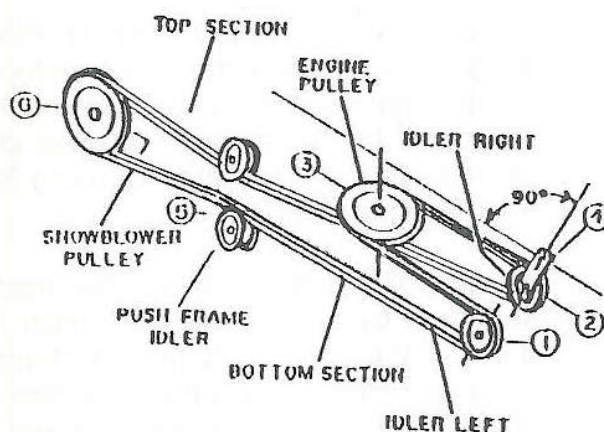

FIGURE 11
- e) Route the snowblower drive belt around the "V" idler pulley (fig.11, item 1) around the "V" idler pulley (item 2) and around the tractor drive pulley (item 3).
- NOTE:** Be careful the left V-belt section between the two pulleys (fig.11, item 6 and 1) is not twisted.
- a) The lever puller (fig. 11 or 14, item 4) must be appx. 90° with the subframe. If it is not like this, loosen the belt by moving the tension arm toward the rear. Adjust the belt tension, using the left ajustable idler pulley (item 1). Loosen the middle bolt, slide the idler in the slot and retighten the bolt. Retighten the V-belt by moving the tension arm toward the front. Check to be sure the spring has between 3/4 to 7/8" length. The pulley lever angle should be appx. 90° to the subframe.